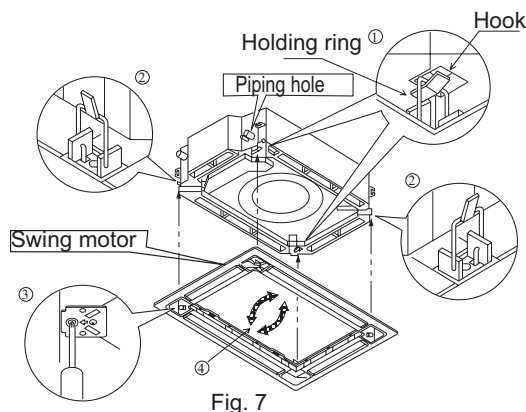

Fig. 7
- (1) As shown in Fig . 7, match the position of swing flap motor with that of the indoor unit piping hole , so that ornament panel can be placed on to indoor unit.
- (2) Installation of ornament panel
- ① Place the holding ring on swing flap motor side temporarily on hooks of the indoor unit. (2 pcs)
- ② Put the other two holding rings on the hooks at both side of the indoor unit. (Care should be taken not to push wiring of swing flap motor into seals).
- ③ Screw in all 4 screws under holding ring for about 15mm. (Panel will rise).
- ④ Adjust the ornament panel as per Fig. 7 to cover opening on the ceiling.
- ⑤ Tighten screws to reduce the thickness of seals between ornament and indoor unit to 5-8mm.